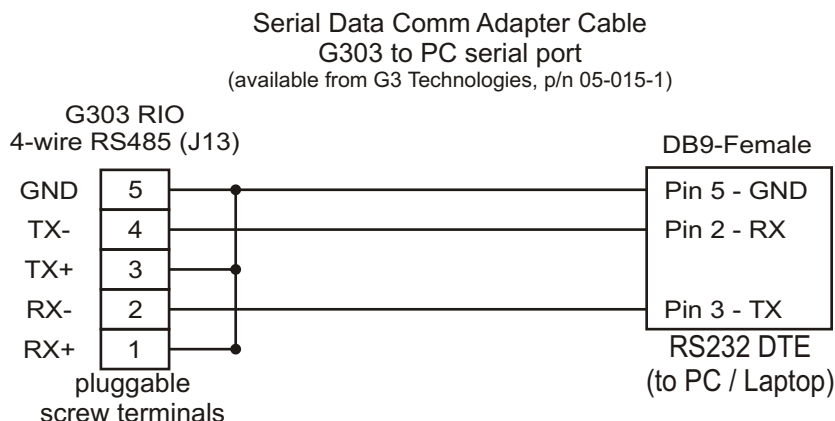

Figure 7
- 1) For temporary short-distance wired data communications between a PC and the G303 RIO (i.e. for configuration of the RIO's radio or for bench testing), set the RIO DIP switches for 4-wire RS485 and use a custom adapter cable (as shown in Figure 7 on next page) to connect the PC's RS232 serial port to the RIO's RS485 port. Note: This connection is not recommended for permanent installations.
- 3) Since the PC must communicate through the RS485 port on the G303 in order to configure the internal radio, an adaptor cable must be used to connect between RS232 and RS485. See Figure 7 below for wiring between RS232 and RS485, and note that DIP Switch S3 must be set for 4-wire RS485 operation. This adaptor cable is available from G3 Technologies, p/n 05-015-1.